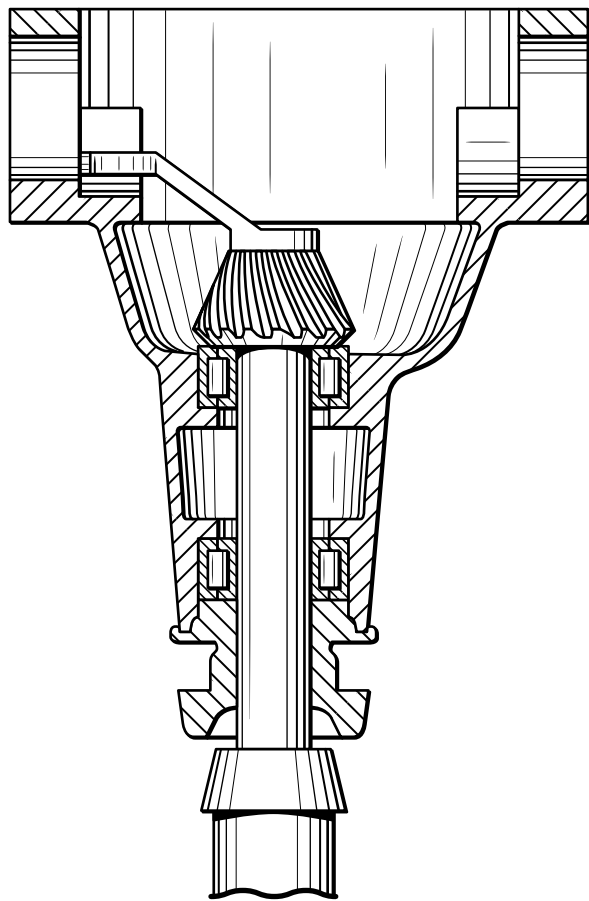

FIG. 3
3. Place the pinion setting tool on top of the pinion head with the slot end of the tool in the carrier bearing journal. (fig. 3,4,5) The end of the tool will rest against the end of axle tube surface.